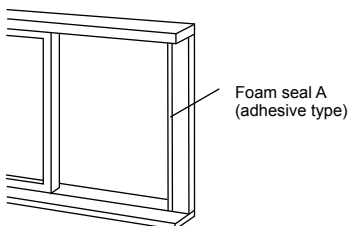

Fig. 12
1. Cut the foam seal (adhesive type) to the proper length and attach it to the window frame. See Fig. 12.